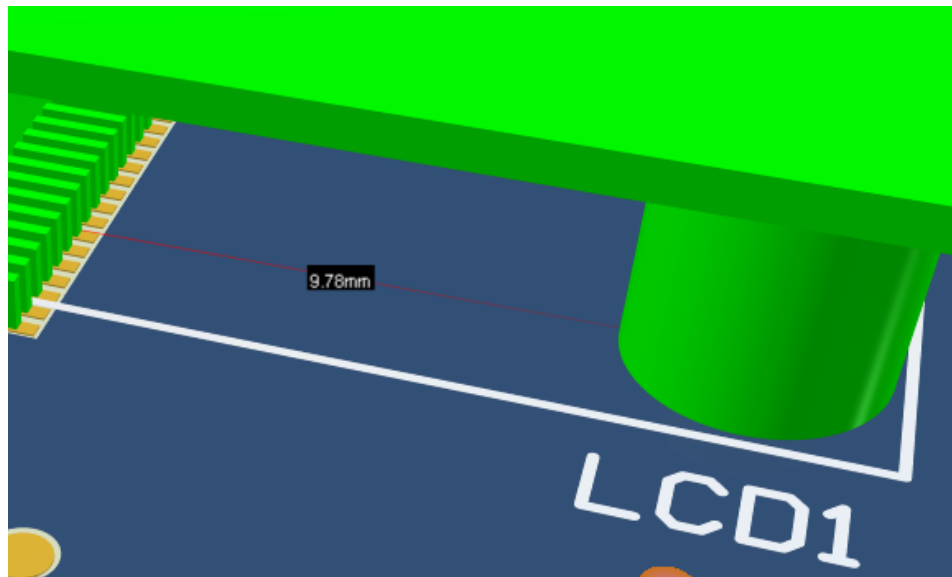

Figure 10. Collision between FPGA and LCD is indicated by a fine horizontal line
35. Note how the collision is now indicated in the X and Y Axis with a fine horizontal line, as shown in Figure 10.